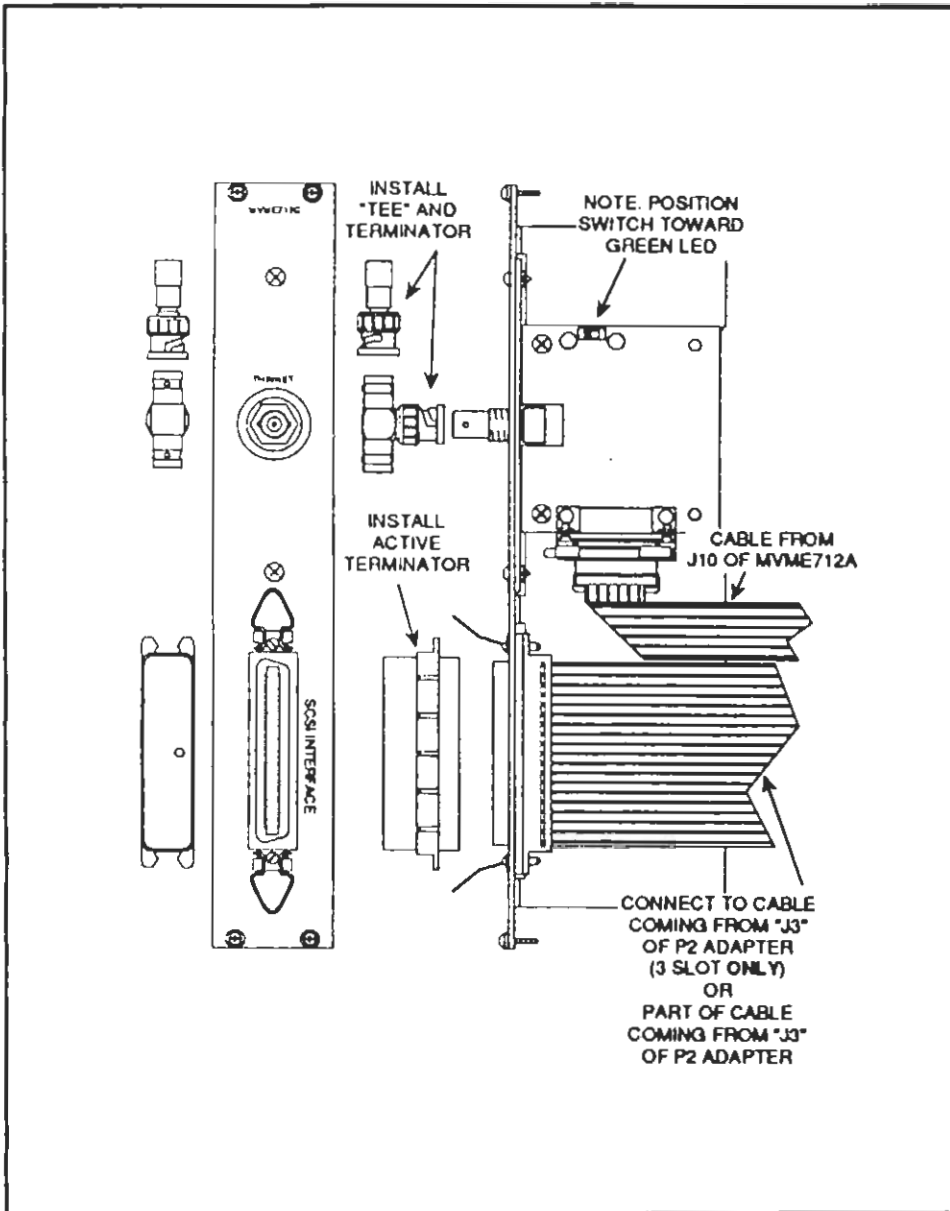

Figure 6. MVME712C Transition Panel
2. Connect the loose end of the SCSI cable coming from J3 of the P2 adapter to connector J2 on the MVME712C transition board. Make sure that the red, blue or dark grey stripe is facing the top of the board. See Figure 6.
5. Install the tee and terminator for the Thinnel connection. See Figure 6.
1. Connect the loose end of the SCSI cable coming from the chassis to the connector on the MVME712C transition board. Make sure that the red, blue or dark grey stripe is facing the top of the board. See Figure 6.
4. Install the tee and terminator for the Thinnnet connection. See Figure 6.
2. Connect the loose end of the SCSI cable coming from the chassis to the connector on the MVME712C transition board. Make sure that the red, blue or dark grey stripe is facing the top of the board. See Figure 6.
5. Install the tee and terminator for the Thinnnet connection. See Figure 6.
5. Install the tee and terminator for the Thinnet connection. See Figure 6.